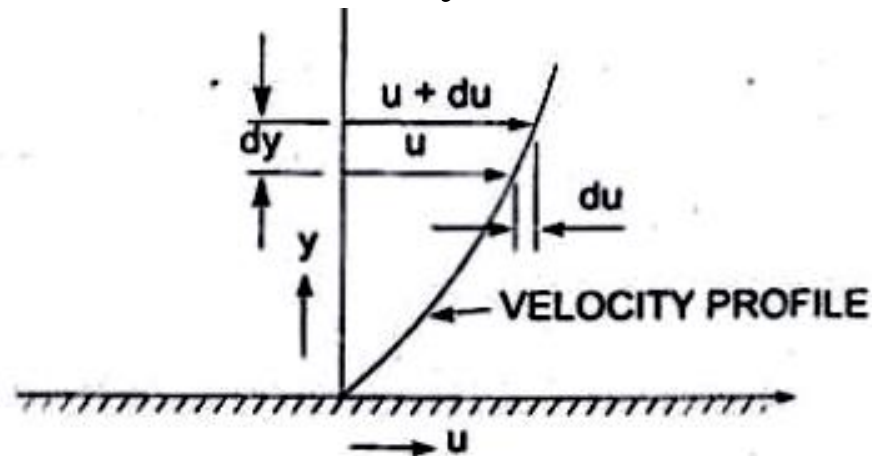

Fig. 1.1 Velocity variation near a solid boundary.
- When two layers of a fluid, a distance ' $dy$ ' apart move one over the other at different velocities say  $u$  and  $u + du$  as shown in Fig. 1.1, the viscosity together with relative velocity causes a shear stress acting between the fluid layers: